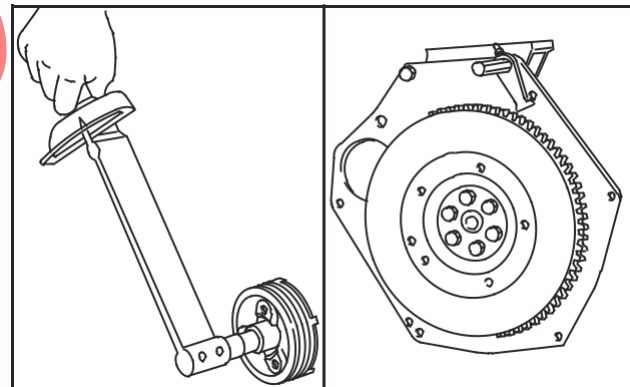

Fig. 21 – Installing Crankshaft Pulley
9. Install crankshaft pulley with timing mark at 12 o'clock position (#1 cylinder), Fig. 21.